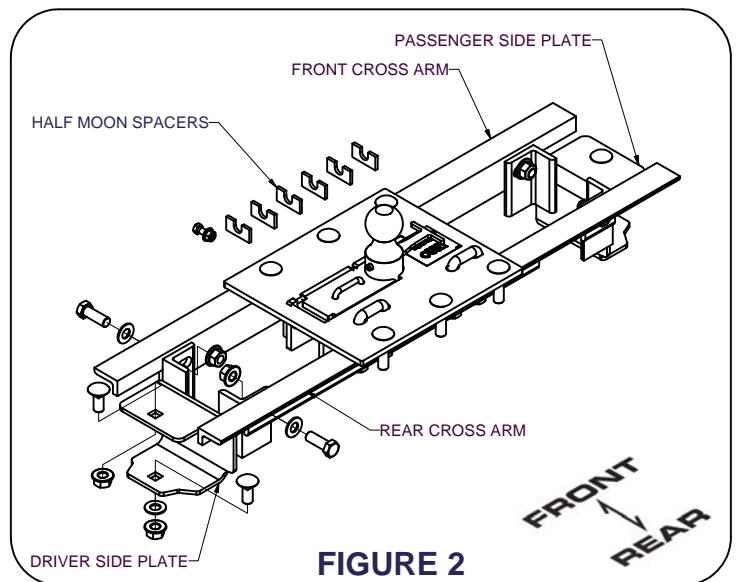

FIGURE 2
- 4) Install the front cross arm at this time by repeating the process used for the rear cross arm. When the cross arm spans the frame rails, push it as far forward to the front most bed frame rail as possible. At this time rotate both cross arms so the side with the three slotted holes are tight against the truck bed. Check to make sure the vertical sides of the arms are facing each other as shown in **Figure 2**.
- 5) Install the mounting plates at this time to the inside of the frame rails. First you must slide the angles up between the cross arms with the slotted holes toward the top. Then push them towards the frame of the truck. When properly fit, the two flanges of the sideplates will fit in between the C-channel of the frame. At this time, the loose exhaust is able to be pushed aside for ease of installation of the passenger sideplate. When the plates are in position, attach them to the cross arms using 5/8-11 x 1 3/4" hex bolts, 5/8" washers and 5/8-11 flange nuts as shown in **Figure 2**. When finished, attach the plates to the frame using 5/8-11 x 1 1/2" carriage bolts and flange nuts as shown in **Figure 2**.